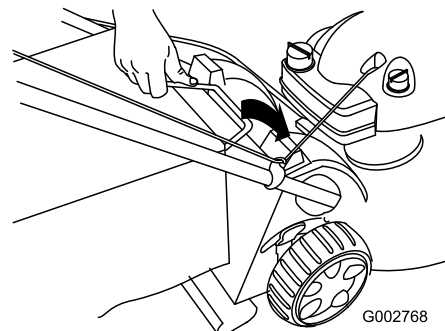

Figure 28
3. Insert the grass bag handle into the grooves at the top of the mower (Figure 28).